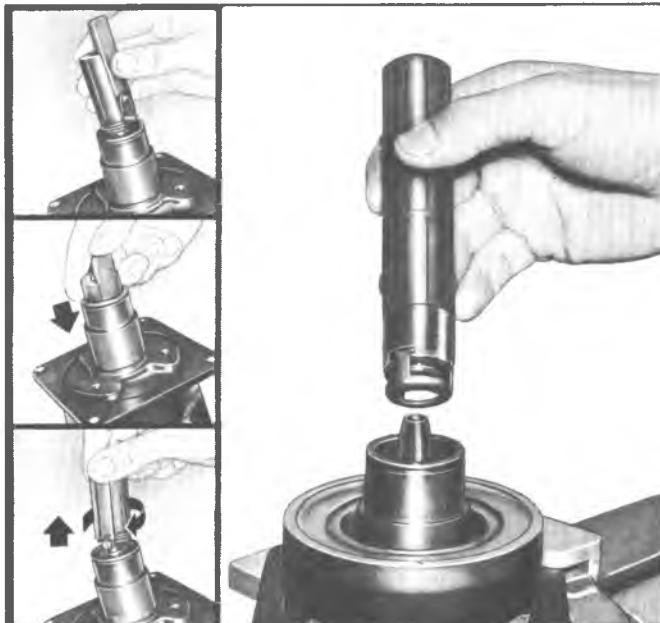

Fig. 13-Replacing Seal and "O" Ring
- Coat the new shaft seal seat "O" ring with clean Frigidaire 525 viscosity refrigeration oil (or equivalent) and install in the compressor neck groove using Tool J-21508 (fig. 13).
- Coat the "O" ring and seal face of the new shaft seal assembly with clean refrigeration oil and carefully engage the seal assembly onto the locking tangs of Tool J-9392 (fig. 13). Place shaft Seal Protector J-22974 over the end of the shaft and slide the seal down the shaft, turning the tool clockwise and applying light pressure until the seal assembly engages the flats on the shaft and is seated in place. Rotate the tool counter-clockwise